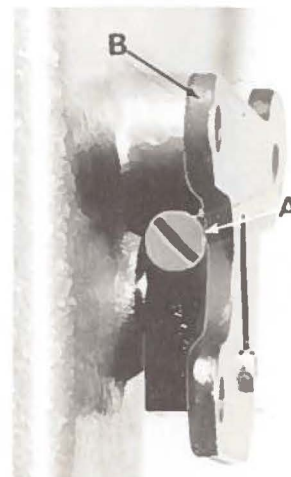
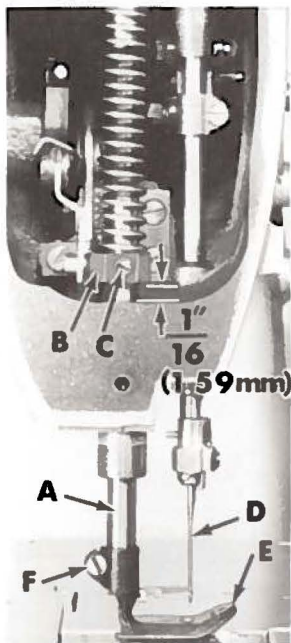

Fig. 14
Fig. 15
If adjustment is needed, loosen tension release lever screw (A, Fig. 14), located at the back of the machine and move tension disc separator as required. Retighten screw. After adjustment there should be no binding at any point.
The height of the presser bar (A, Fig. 15) is set correctly if it is possible to remove the presser foot when the foot lifter lever (B, Fig. 14) is fully depressed. Also there should be approximately 1/16 inch (1.59 mm) clearance between lower surface of the presser bar connection and guide (B, Fig. 15) and the bottom surface of head opening in the bed when the foot lifter lever is released and the presser foot resting on the throat plate, with the feed dog down below the throat plate.
Remove both needles (D, Fig. 15) and put presser foot (E) on to the presser bar (A), if not already in place. Do not tighten the clamp screw (F). It should be able to move freely on the presser bar. Place a piece of fabric in the machine to be corded and operate the machine. This will allow the presser foot to find its true position with respect to the guide on top of the throat plate. Now tighten the presser foot clamp screw. Replace the needles and check for clearance in needle hole in presser foot.